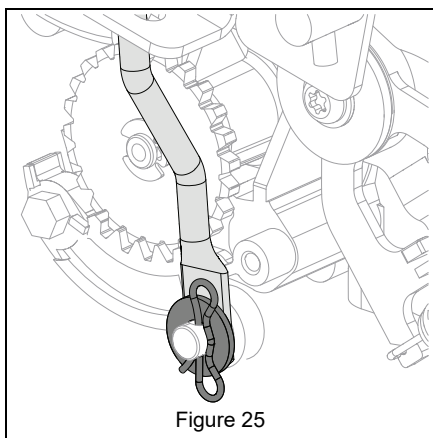

Figure 25
6. Remove pin retaining brake linkage to transaxle and disconnect linkage. See Figure 25.